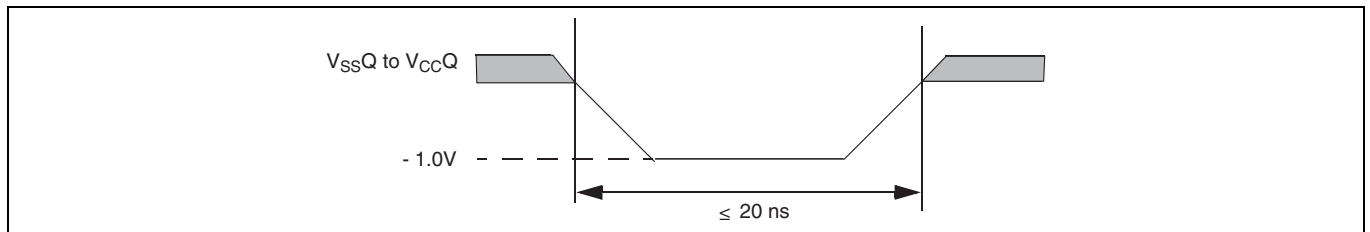
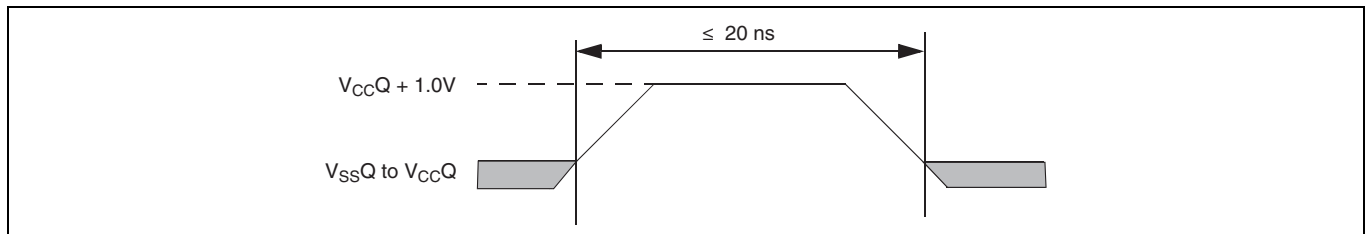

Figure 21 Maximum negative overshoot waveform
Figure 22 Maximum positive overshoot waveform
31. Minimum DC voltage on input or I/O signal is -1.0 V. During voltage transitions, input or I/O signals may undershoot VSS to -1.0V for periods of up to 20 ns. See **Figure 21**. Maximum DC voltage on input or I/O signals is VCC + 1.0 V. During voltage transitions, input or I/O signals may overshoot to VCC + 1.0 V for periods up to 20 ns. See **Figure 22**.